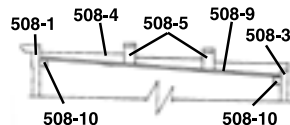

Fig. 3
3. Chimney backs: (Fig. 3 and 4). The styrene roof 508-9 will be glued to the bottoms of the four chimney backs. Note that the roof slopes downward from the front of the building to the rear. Accordingly, the bottoms of the four chimney backs slope in the same direction...the two 508-5 backs slope downward from left to right and the 508-6 slope the opposite way. File draft angle off bottoms of chimneys so top of roof will fit flush to them. Glue the chimney backs in their proper places, and when joints are completely set, file tops flat and square.
9. Install roof through bottom of building and glue to underneath of chimney backs (Fig. 3). Cut two roof supports 508-10 to fit between side walls. Glue one to bottom of roof and to back of front wall...the other to bottom of roof and the rear wall.